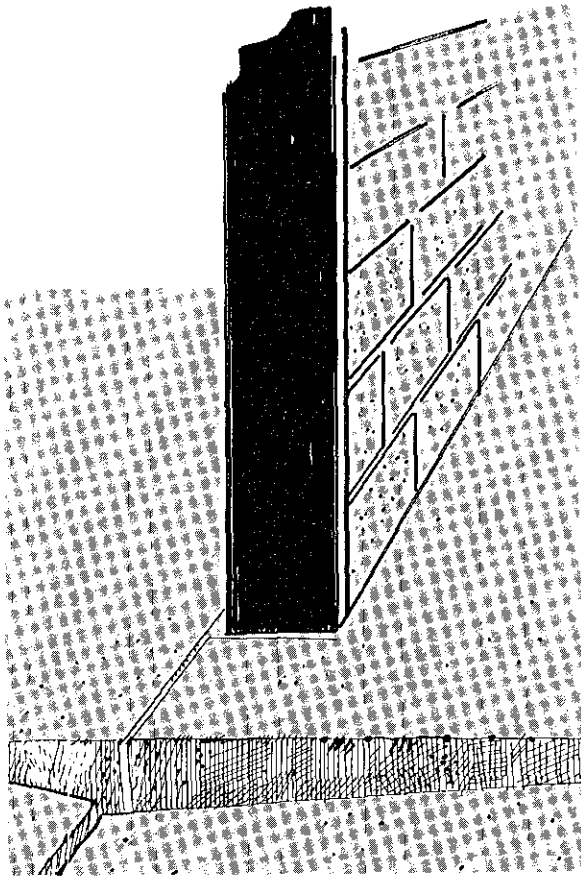

FIGURE 11
- Look for signs that the sub-base supporting a slab has settled. A large hollow under a floor can let the slab drop in mid cut without warning (Figure 11). This usually jams the blade, throwing off segments at high speed. If water drains rapidly away down the saw cut, the slab probably has a hollow. Before cutting check by tapping the concrete with a hammer and listening for a hollow sound.